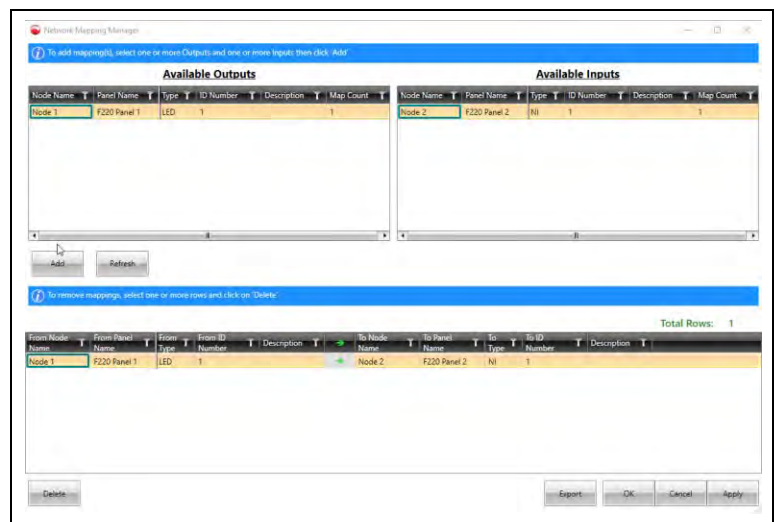

Figure 20-41: "Network Mapping Manager" showing one 'Available Output' that can be mapped to one 'Available Input'.
- Once "Add" has been clicked, the mapping will be displayed in the lower panel (See Figure 20-41).